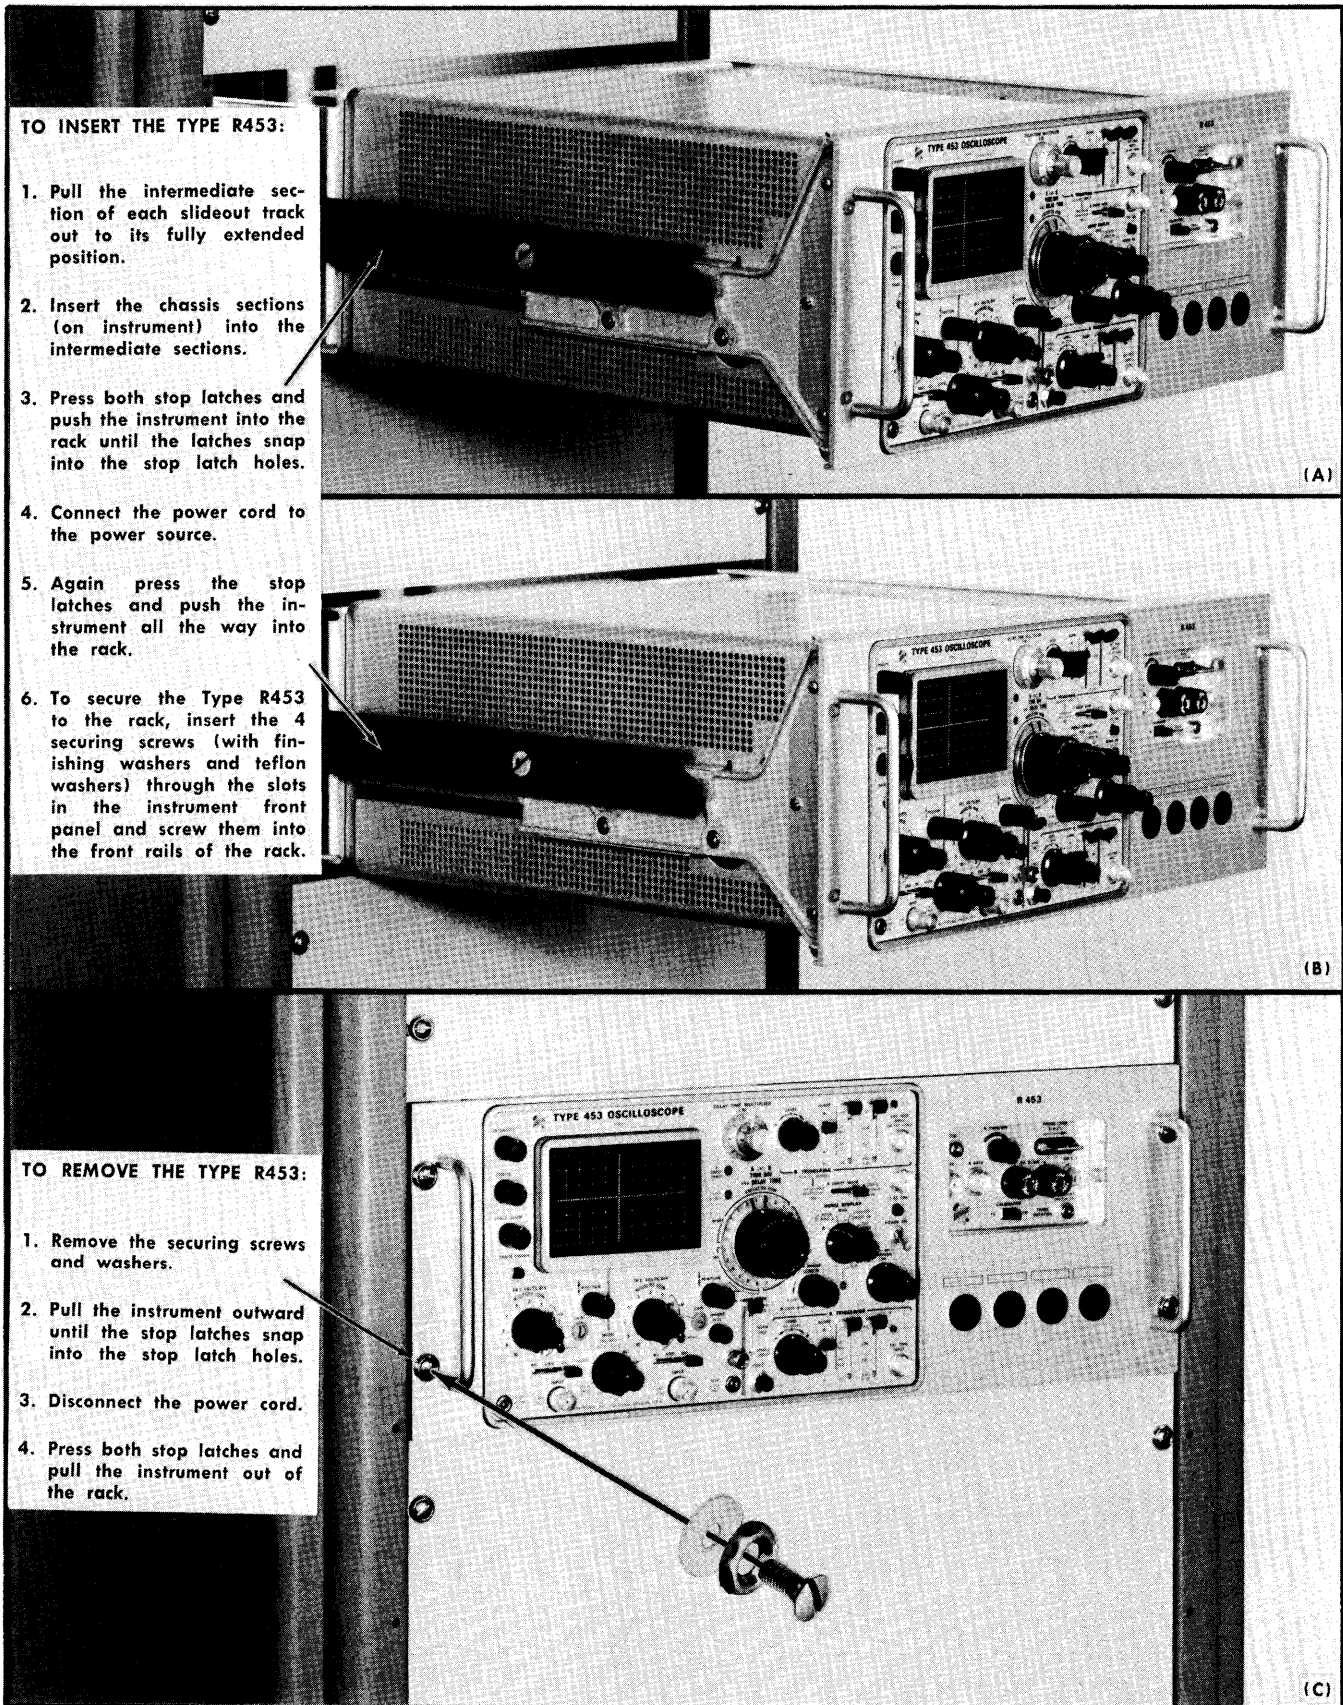

Fig. 6-9. Procedure for inserting or removing the instrument after the slideout tracks have been installed.
6. Refer to Fig. 6-9 to insert the instrument in the rack. Do not connect the power cord or install the securing screws until all adjustments have been made.
After initial installation and adjustment of the slide-out tracks, the Type R453 can be removed or installed by following the instructions given in Fig. 6-9. No further adjustments are required under normal conditions.